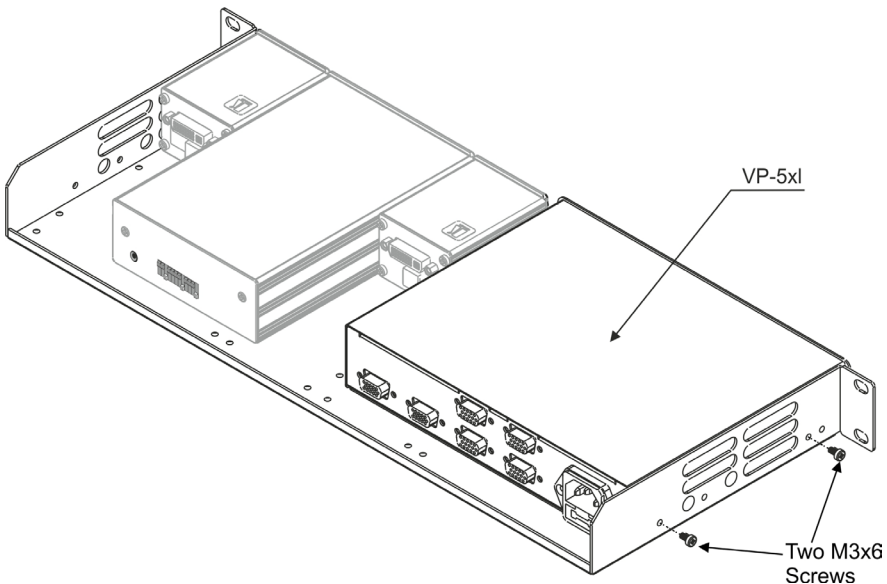
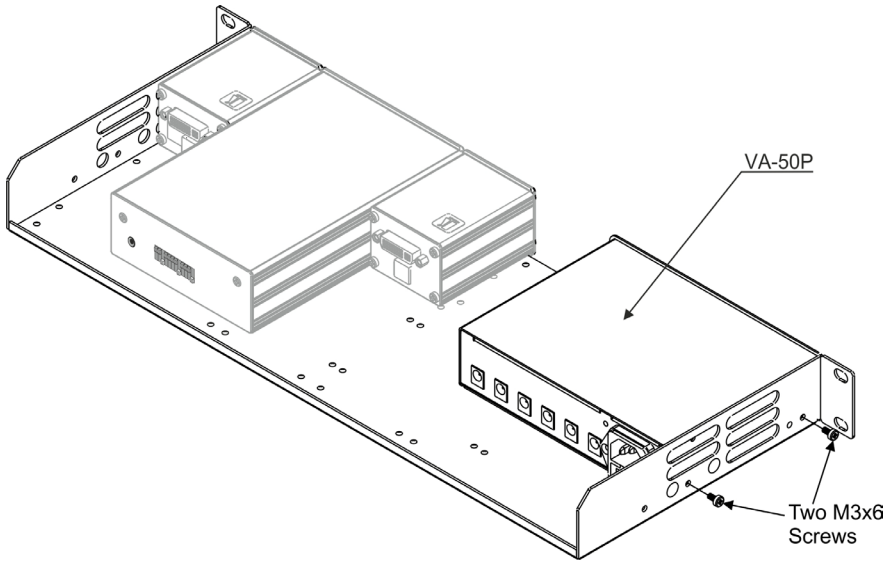

Figure 3: Mounting a half-19" unit via Screws on the RK-1 Side Panel
Figure 4: Mounting a 6.5" Machine via Screws on the RK-1 Side Panel 104B (FC-31xl)
To mount the units on the **RK-1** as illustrated in Figure 3 and Figure 4 (**VP-5xl** and the **VA-50P** respectively), do the following:
3. Insert the two M3x6 screws through the holes on the side panel of the **RK-1** that fit the holes on the side panel of the unit (as illustrated in Figure 3 and Figure 4).